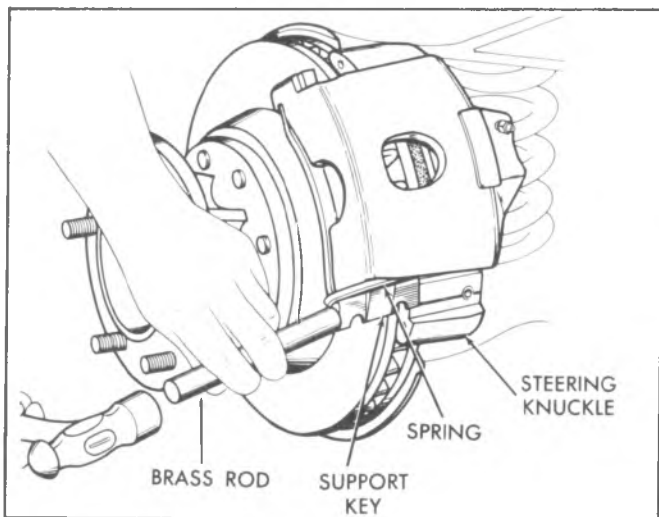

Fig. 5-35--Installing the Caliper Support Key
6. Place the spring over the caliper support key, install the assembly between the steering knuckle and lower caliper groove. Tap into place (until the key retaining screw can be installed) using a brass punch and a light hammer (fig. 5-35).